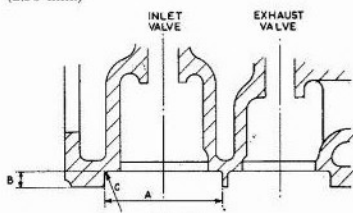

Fig. H.8.
3. Using a suitable cutting tool, the old seats should be cut away to the dimensions shown in Fig. H.8. Care should be taken that the cutting is clean, and that all the swarf is removed.